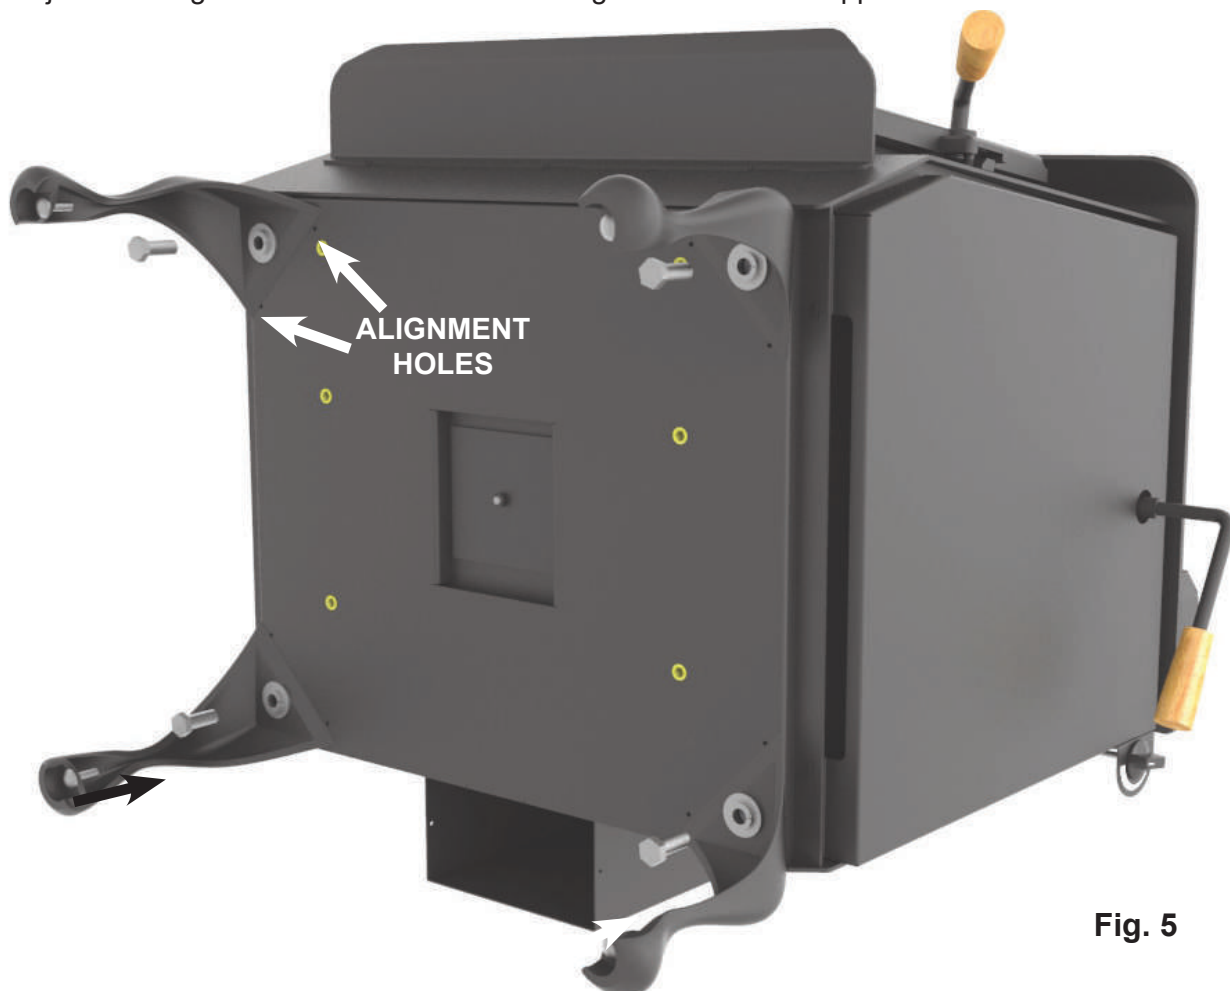

Fig. 5
2. Position each leg accordingly, using alignment holes in appliance base as guides. Fasten the legs to the appliance using the hardware supplied with the kit. (**Fig. 5**)